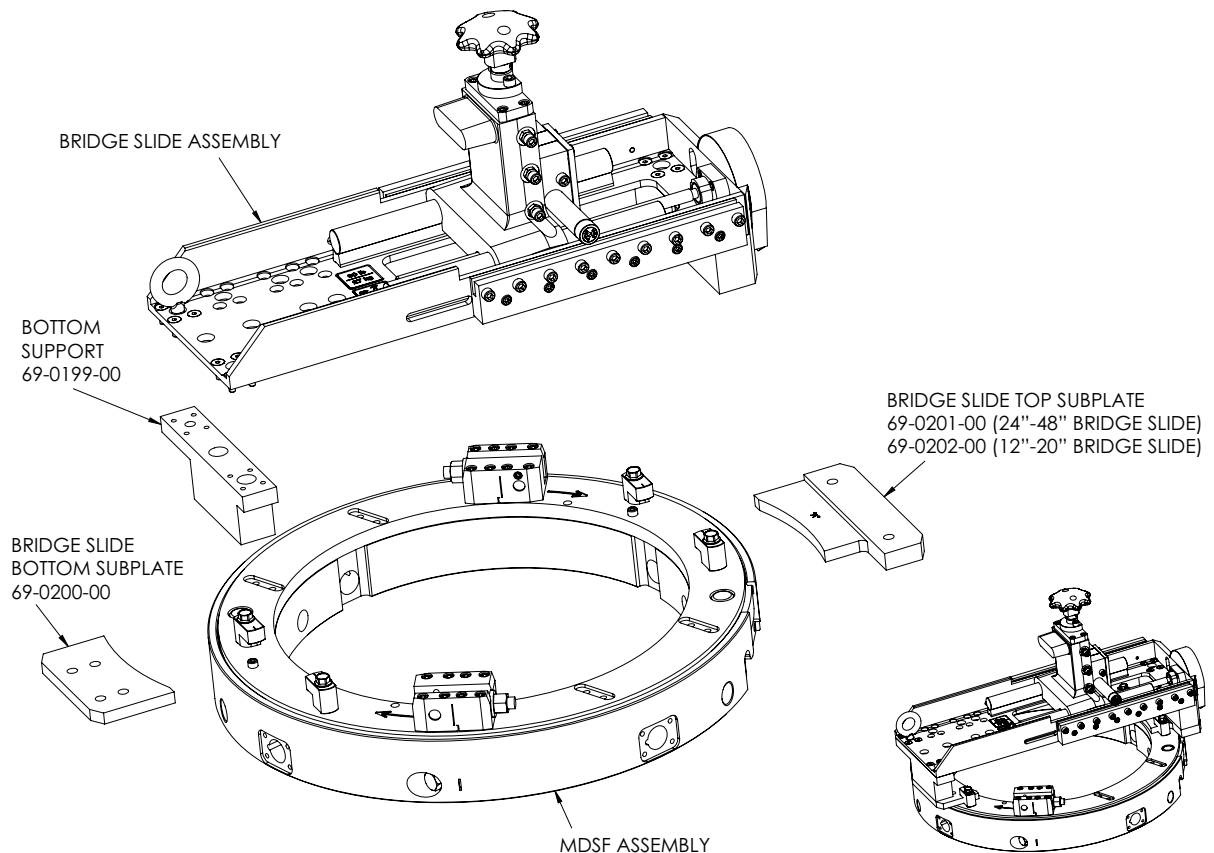

Figure 8-2. Mount the bridge slide to the MDSF as shown.
3. Mount the bridge slide bottom subplate and bridge slide top subplate to the MDSF at the slide mounting positions, as illustrated in Figure 8-2.